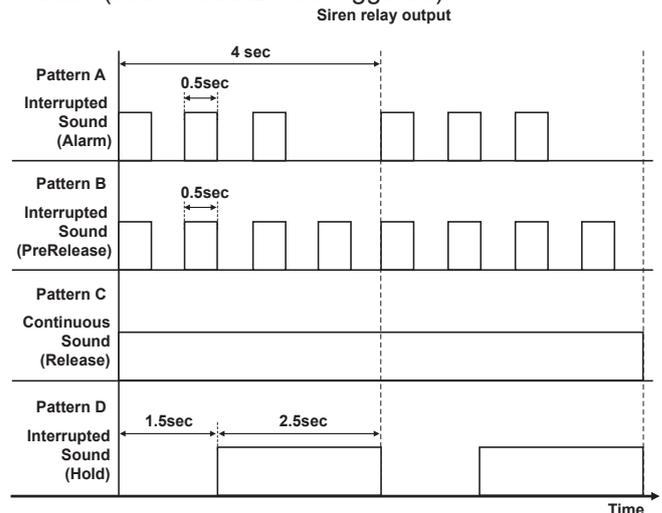

Figure 41. Cross-zoning siren output patterns
- Relay 1 produces the pre-release output pattern (see Figure 41)
- During "One zone triggered" state changes the siren output pattern to "HOLD" see Figure 41.